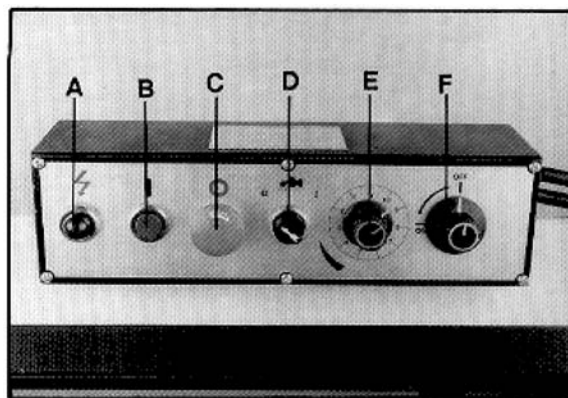

Figure 5
See Figure 5.
2. Turn on hydraulic valve (F, Figure 5).
3. Turn cutting pressure control valve (E, Figure 5) counterclockwise until it stops.